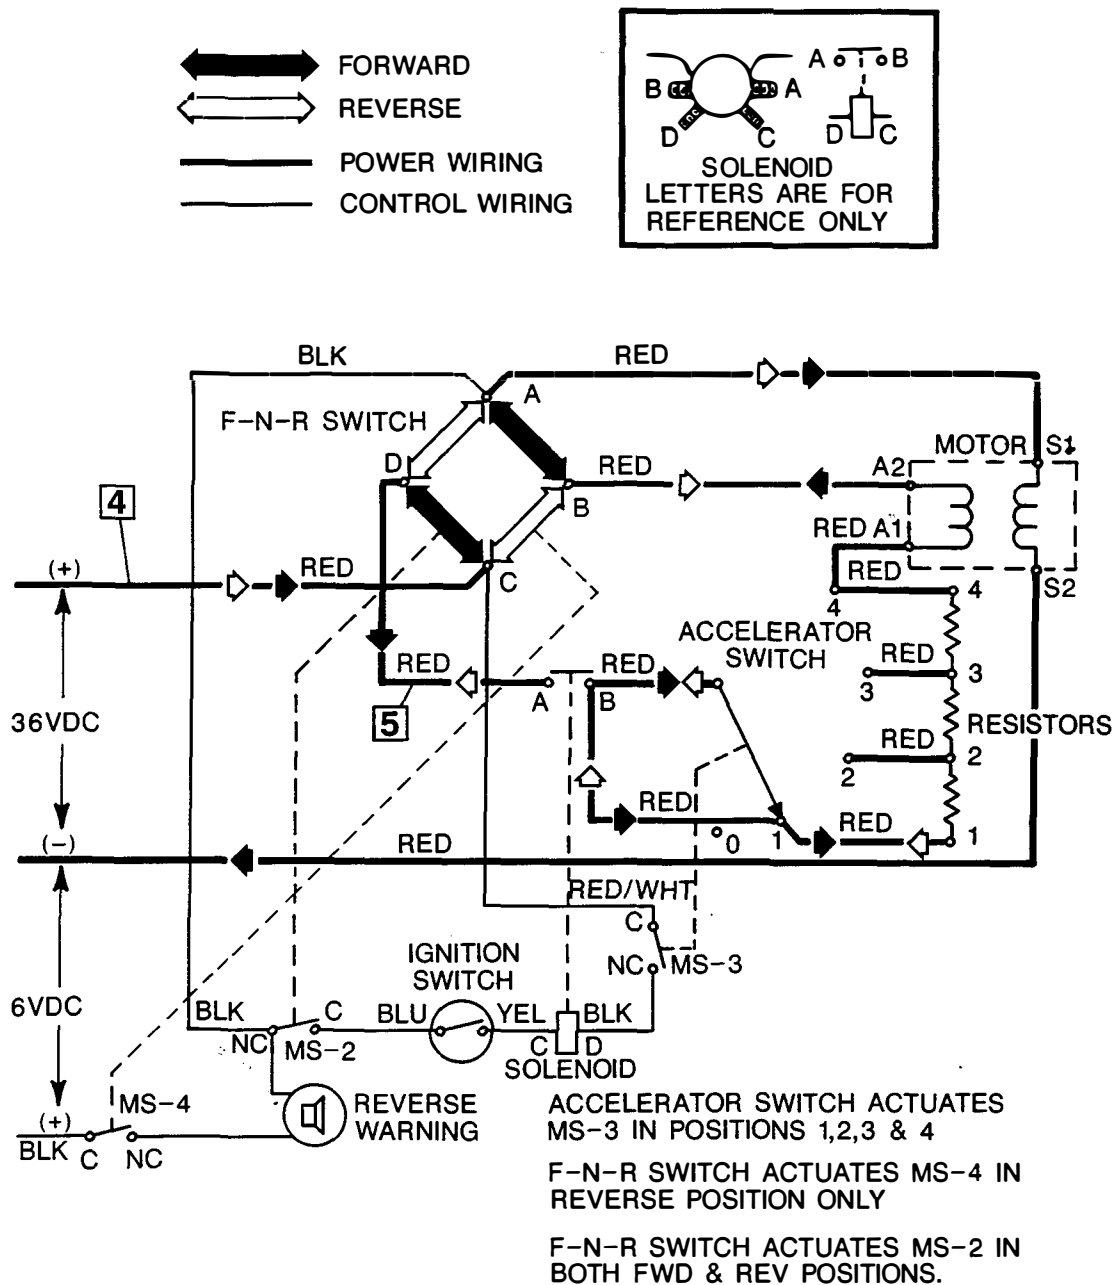

FIG. K-1 ELECTRIC CAR WIRING DIAGRAM
### GENERAL (Fig. K-1)
### CONTROL CIRCUIT (Fig. K-1)
**WARNING: DISCONNECT THE BATTERY LEAD (#4) (FIG. K-1) FROM THE BATTERY BEFORE ATTEMPTING SERVICE OF THE FORWARD-NEUTRAL-REVERSE SWITCH.**